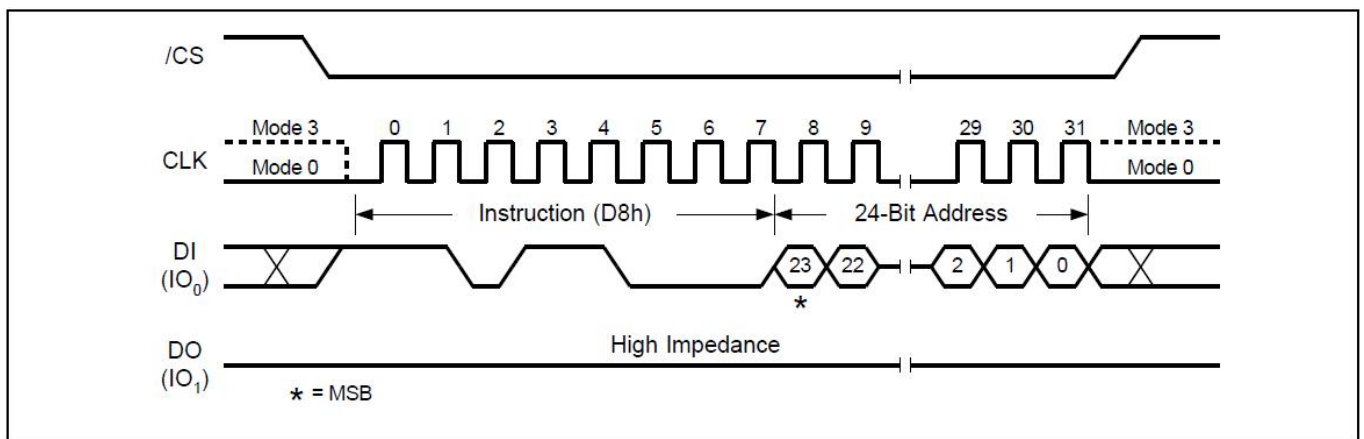

Figure12. 64KB Block Erase Sequence Diagram
The 64KB Block Erase command sequence: CS# goes low → sending 32KB Block Erase command → 3-byte address on DI → CS# goes high. The command sequence is shown in Figure 12. CS# must be driven high after the eighth bit of the last address byte has been latched in; otherwise the 64KB Block Erase (BE) command is not executed. As soon as CS# is driven high, the self-timed Block Erase cycle (whose duration is Tse) is initiated. While the Block Erase cycle is in progress, the Status Register may be read to check the value of the Write in Progress (BUSY) bit. The Write in Progress (BUSY) bit is 1 during the self-timed Block Erase cycle, and is 0 when it is completed. At some unspecified time before the cycle is completed, the Write Enable Latch (WEL) bit is reset. A 64KB Block Erase (BE) command applied to a block which is protected by the Block Protect (BP2, BP1, and BP0) bits (see Table 1-3) is not executed.